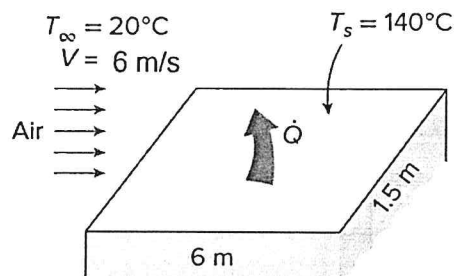

Figure 2: External convection of a flat plate
*Refer Below - Figure2 : External convection of a flat plate .*